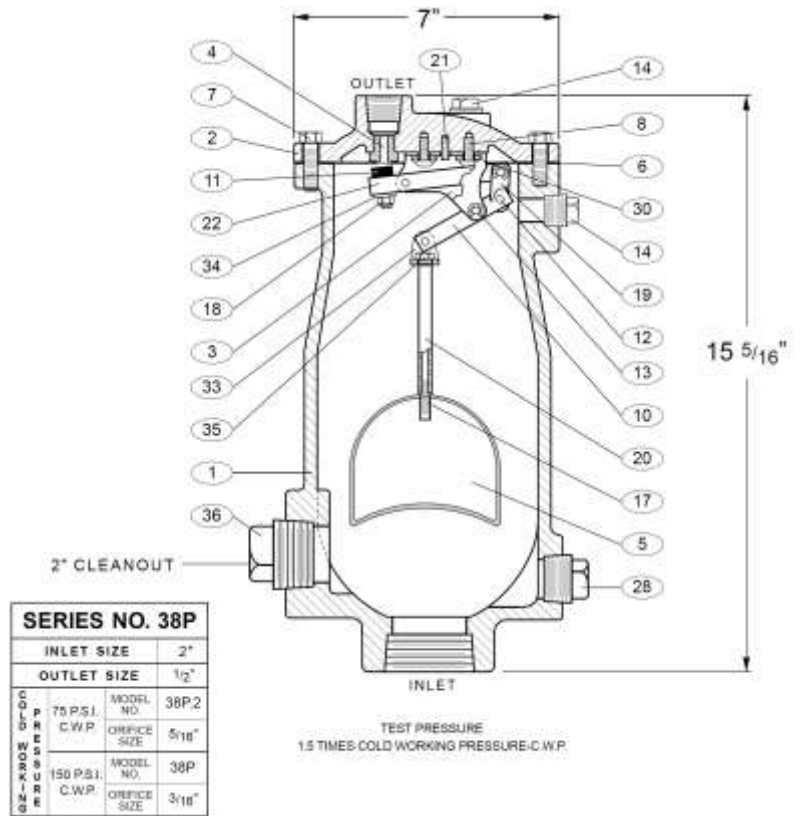

FIGURE 2. VACUUM PRIMING VALVE
The lever mechanism provides mechanical advantage for the float. During system operation, the vacuum pressure exerts a strong upward force on the sealing component, the orifice button. The lever mechanism magnifies the weight of the float so that the orifice will open under high pressures and release air. Additional ports are provided for flushing, testing and draining purposes. The general details of construction are illustrated in Figure 2. The body (1) is threaded for connection to the pipeline. The seat (4) is threaded into the cast cover (2).
All parts must be cleaned and gasket surfaces should be cleaned with a stiff wire brush in the direction of the serrations or machine marks. Worn parts, gaskets and seals should be replaced during reassembly. Refer to Figure 2.